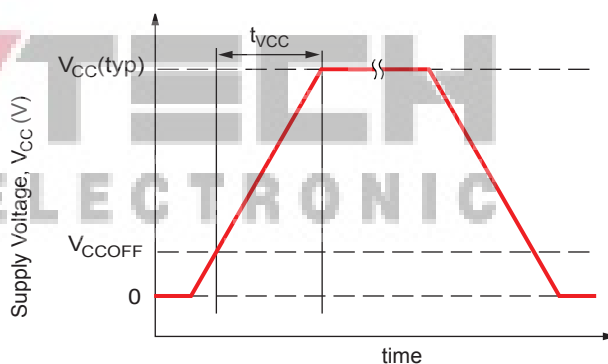

Figure 3: Definition of  $V_{\text{CC}}$  Ramp Time,  $t_{V_{\text{CC}}}$
**$V_{\text{CC}}$  Ramp Time.** The time taken for  $V_{\text{CC}}$  to ramp from 0 V to  $V_{\text{CC(typ)}}$ , 3.3 V (see figure 3).
**$V_{\text{CC}}$  Off Level.** For applications in which the VCC pin of the A1304 is being power-cycled (for example using a multiplexer to toggle the part on and off), the specification of  $V_{\text{CC}}$  Off Level,  $V_{\text{CCOFF}}$ , determines how high a  $V_{\text{CC}}$  off voltage can be tolerated while still ensuring proper operation and startup of the device (see Figure 3).